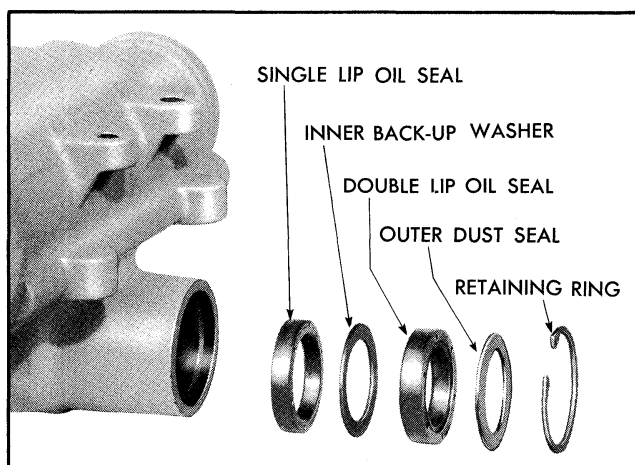

Fig. 9A-23 Pitman Shaft Seals and Washers
3. Lubricate and install pitman shaft seals; single lip seal, inner back-up washer, double lip seal, outer dust seal and retaining ring in housing bore (Fig. 9A-23). Use tool J-6219 (Fig. 9A-24) for seals and J-4245 for retaining ring. Make sure seal lips are